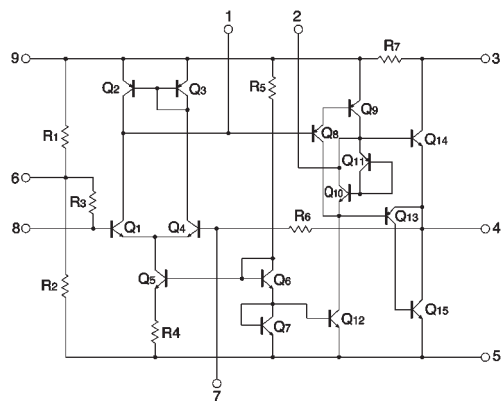

Fig. 2
- 1) High output. $POUT = 330mW$ ($V_{CC} = 6V$ and an 8Ω load (THD = 10%)). See Fig. 2.
● Circuit construction (See Fig. 2)